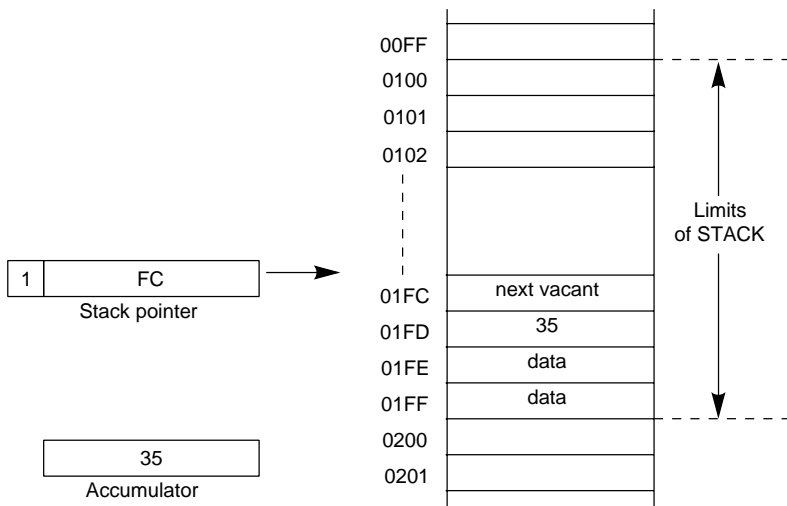

Fig. 2.3. The stack and stack pointer
(5) The stack is a LIFO, meaning Last In First Out, memory so you must pull data back with this in mind. After every push, SP decrements by 1 in order for the next push to operate on a new vacant location. When data is to be pulled back, SP first increments by 1 (in order to point to the last stored item) before the pull operates. The stack pointer automatically 'rises' with each push and 'falls' with each pull so there is no need to bother with SP (see Fig. 2.3). You can forget the existence of the stack pointer providing you remember that the *last item pushed* onto the stack from A will always be the *first item pulled* back into A.
(6) The stack can only hold one page 256 bytes, that is. If you overflow the stack, there is no friendly warning as in BASIC. All that happens is a 'wrap around' effect. For example, if SP is initially set to FF hex and data keeps piling on the stack, SP eventually reduces to 00. The next decrement wraps around to FF again causing weird and unexpected results. However, a 256 byte stack is normally more than ample for most programs and overflow conditions should be rare.
(7) In addition to its use as a temporary dumping ground for general work, the stack plays a vital role in both subroutines and interrupts. When a subroutine is called by means of JSR, the two bytes forming the return address (which will be in the program counter) are pushed onto the stack high byte first, low byte second. When the subroutine ends (with RTS), the return address is pulled back from the stack (low byte first, high byte second) and passed to the program counter, allowing the body of the program to resume again.